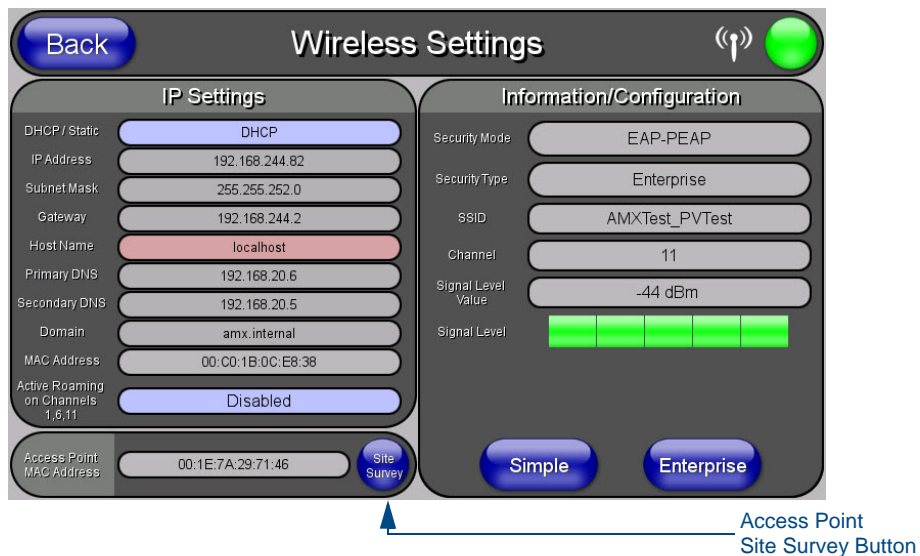

FIG. 14 Wireless Settings page (IP Settings section)
1. Select **Wireless Settings**. Wireless communication is set within the *IP Settings* section of this page (FIG. 14).
1. From the *Protected Setup* page, press the **Wireless Settings** button to open the *Wireless Settings* page. Wireless communication is set within the *IP Settings* section of this page (FIG. 14).